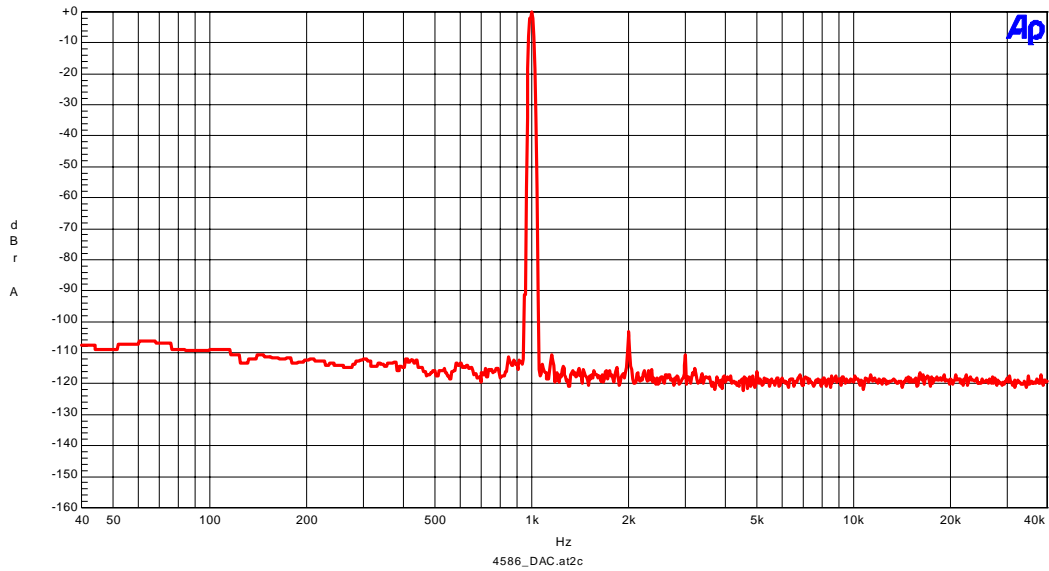

Figure 4-1. FFT (1kHz, 0dBFS input; Notch=OFF)
- Figure 4-1. FFT (1kHz, 0dBFS input; Notch=OFF)